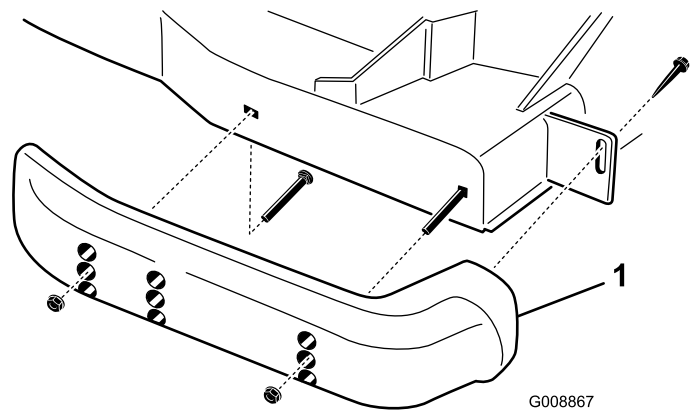

Figure 26
1. Loosen the screw at the front of each skid (Figure 26).
2. Remove the flange-head bolts and nuts from each skid (Figure 26).